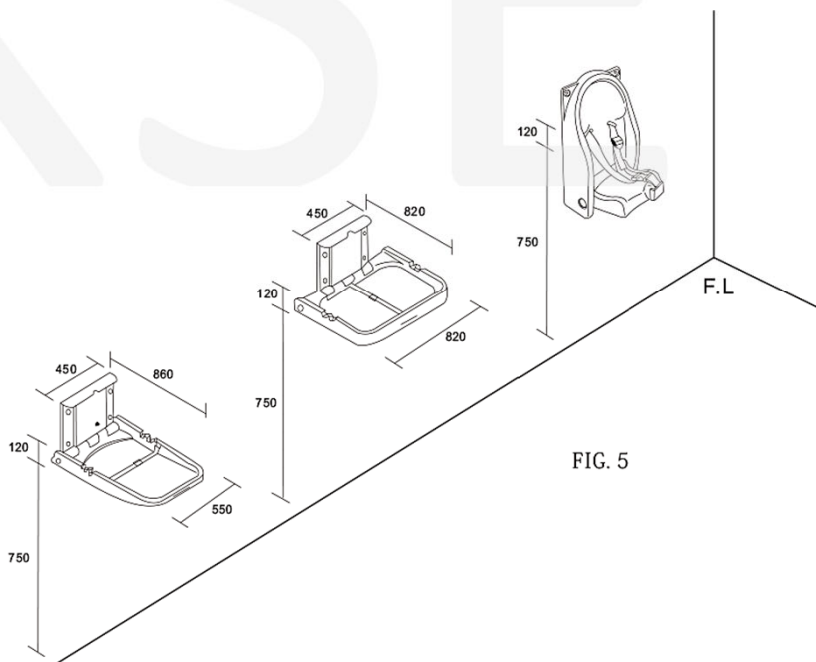

FIG. 5
5. Cover the hole case to finish the installation.(fig5)